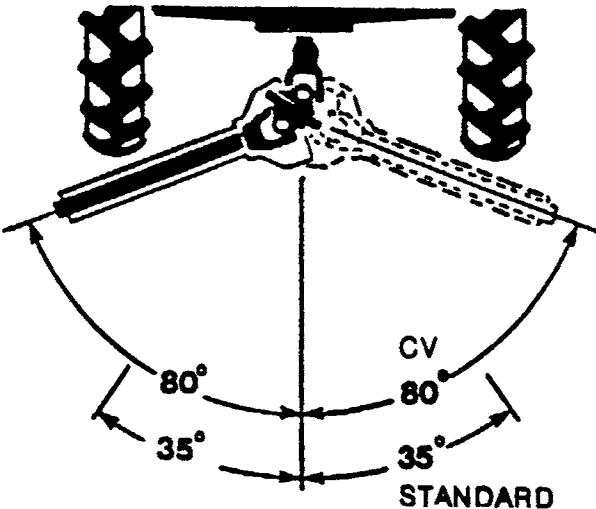

Figure 16. Driveline Angles
4. Although the driveline may be equipped with an optional constant velocity (CV) joint, turning angles are limited. (See Figure 16.) Do not exceed the working angles. Turn off the machine when making sharp turns.
The front universal is equipped with a constant velocity (CV) joint to allow for turning. Although the CV joint allows for sharper turns than a regular driveline, it does have some limitations. Refer to Figure 16.